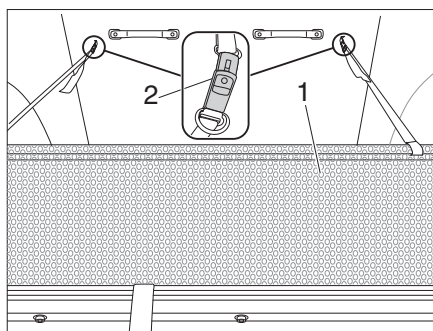

Fig. 22 Falling-out protection
- Pull the safety guard (Fig. 22,1) out from under the mattress.
- Secure the safety guard to the pop-up roof with the strap buckle (Fig. 22,2).
- Releasing the strap buckle (Fig. 22,2).
- Stow the safety guard (Fig. 22,1) under the mattress.